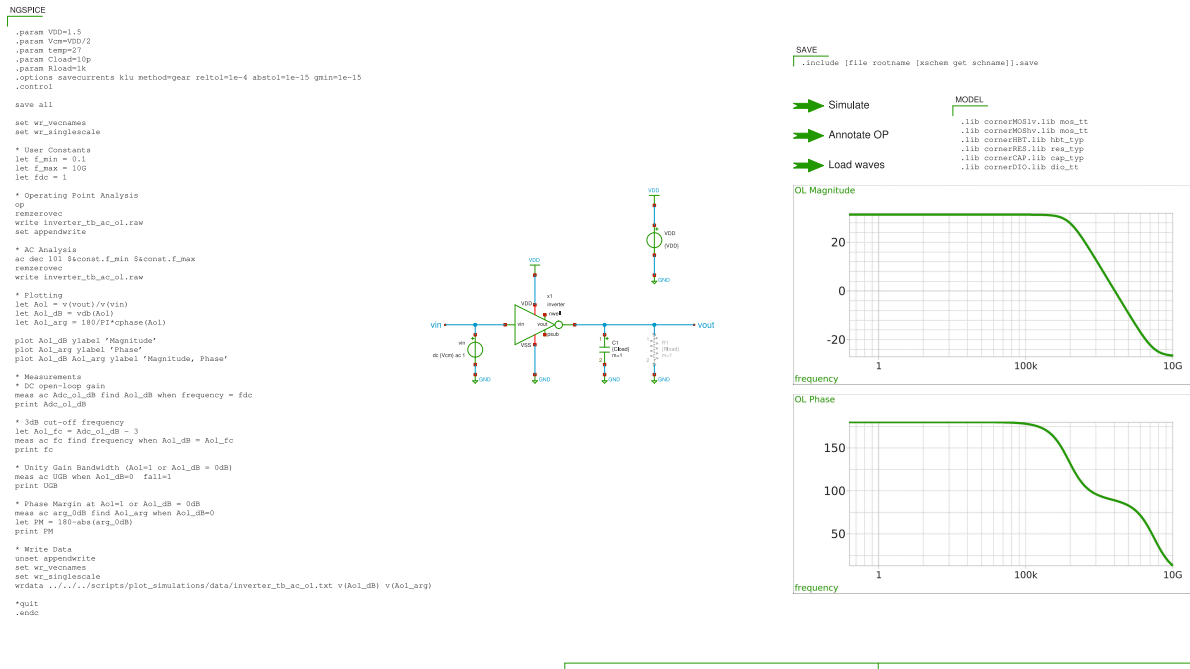

Figure 9: Xschem testbench `inverter_tb_ac_ol` (open-loop ac characterisation on inverter).
- inverter_tb_ac_ol.sch, open-loop ac characterisation (see Figure 9),